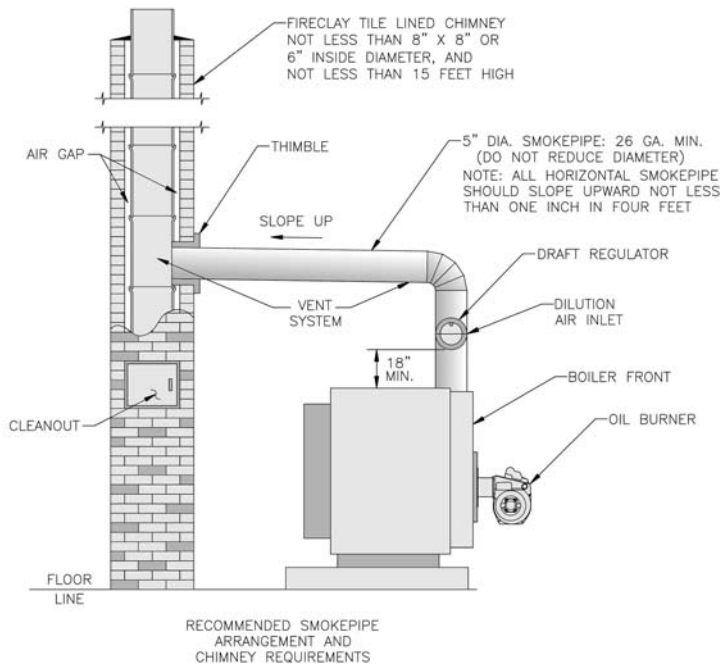

Figure 7
8. **INSTALL SMOKEPIPE** — The LE should be vented into a fireclay tile-lined masonry chimney or a chimney constructed from Type L Vent or a factory built chimney that complies with the Type HT requirement, of UL103. The chimney and vent pipe shall have a sufficient draft at all times, to assure safe proper operation of the boiler. See Figure 7 for recommended installation.